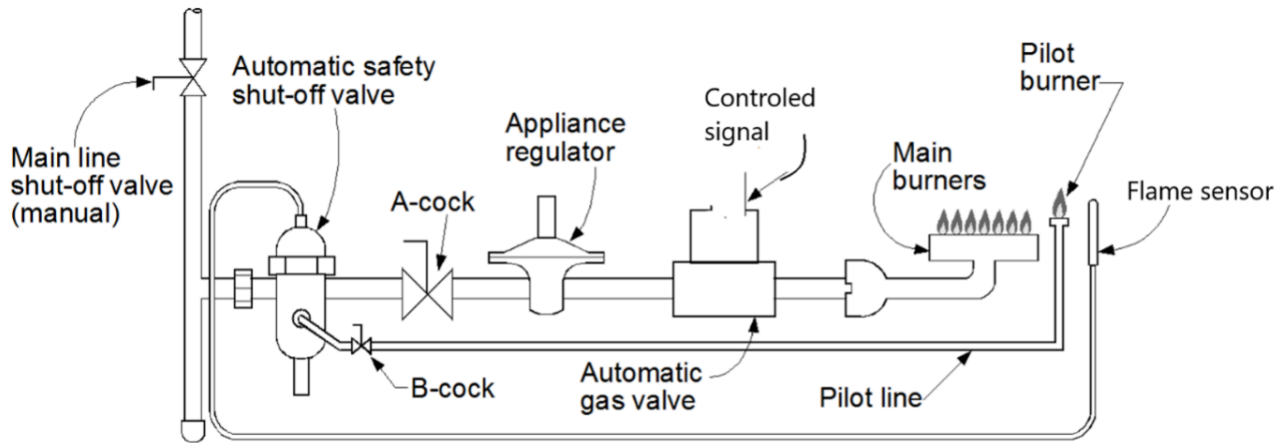

Figure 13. Valve train assembly
For installations under 400MBH the valve train assembly is typically supplied and preassembled as part of the appliance. Although manufactures appliance valve trains will vary in how they are assembled, they will all have the components shown in Figure 13 in one form or another. This diagram is used as in introduction because it shows all of the components as separate parts, whereas on modern appliance many of these components are combined into one valve. body.
- Figure 13. “Valve train assembly” – The source for this image is unknown. It is being used for non-commercial, educational purposes. To receive credit for this image, please reach out to the publisher.